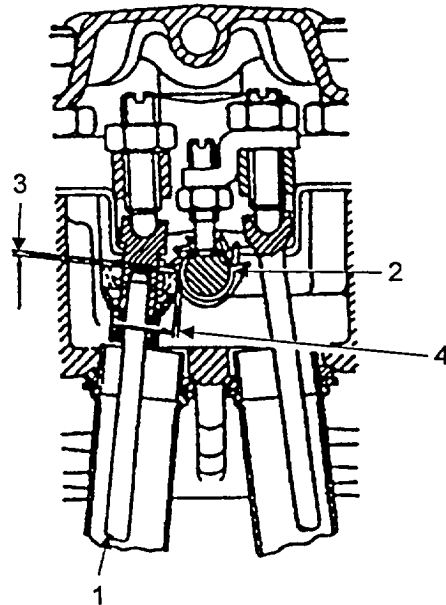

FIGURE 5-33. PUSHROD ADJUSTMENT
Check clearance of complete pushrod (Figure 5-33, Item 1) and pinion (2).
a. Use feeler gauge to check that clearance (3) between socket of complete pushrod (1) and pinion (2) is 0.039 inch (1.0 mm).
b. Check that clearance (4) is 0.039 Inch (1.0 mm).
c. Clearances can be adjusted by adjustment complete pushrod (1) for clearance (3) and adjusting rocker shaft for clearance (4).